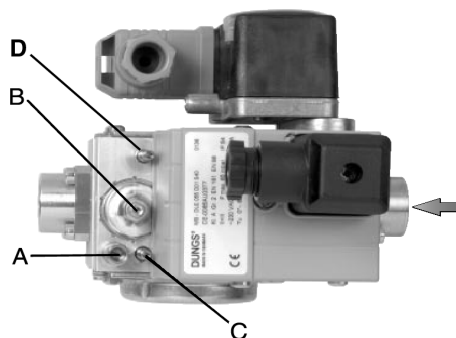

Fig. 8 -DUNGS MBC 65-DLE
- slacken screw A (Fig. 8) in measuring nozzle. Connect pressure gauge.
- Set to the minimum the pressure regulator by turning adjustment screw B (Fig. 8) anticlockwise .
- Adjust the flame during the startup phase by means of the bypass C (see Fig. 8 n. 10). Turning clockwise the gas flow decreases, turning counterclockwise the gas flow increases. Do not exceed in the start flow, otherwise the stabiliser B (Fig. 8) will be inefficient.
Act on the pressure regulator to achieve the desired gas flow rate, by means of the Adjustment screw B (Fig. 8): turn the screw clockwise to increase the flow rate, turn counter-clockwise to decrease it.
The adjustment screw D for the main flow restrictor is completely open (factory setting): do not change its position. Once the adjustments are accomplished, close screw A (Fig. 8) in the measuring nozzle..